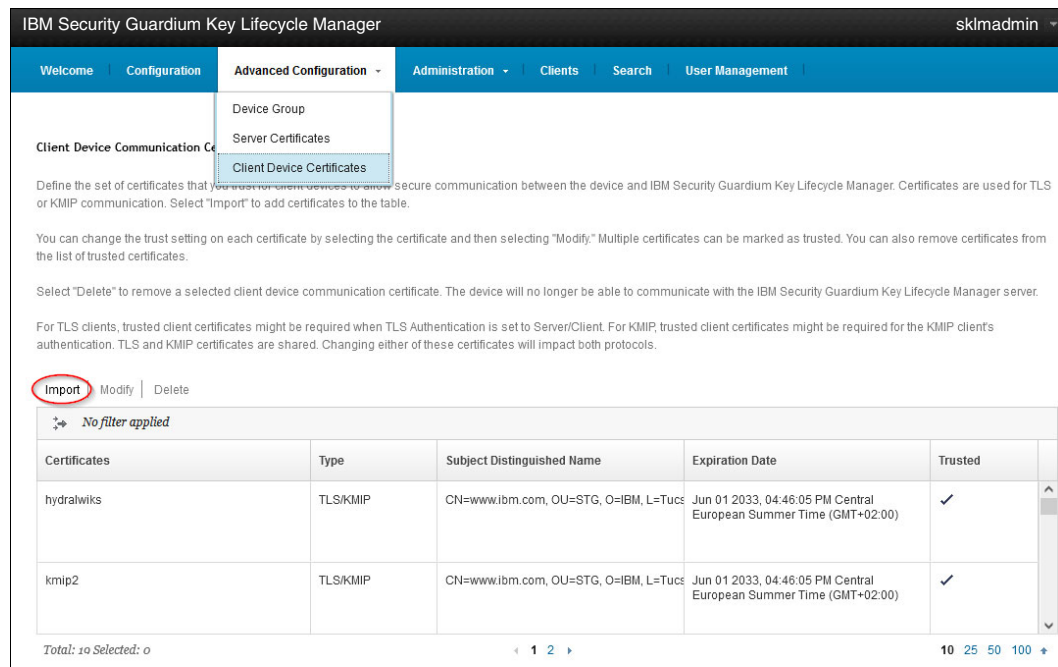

Figure J-12 IBM Security Guardium Key Lifecycle Manager Client Device Certificates
1. Log in to the GUI of the target IBM Security Guardium Key Lifecycle Manager, and open the **Advanced Configuration/Client Device Certificates** window. Then, click the **Import** control (see Figure J-12).